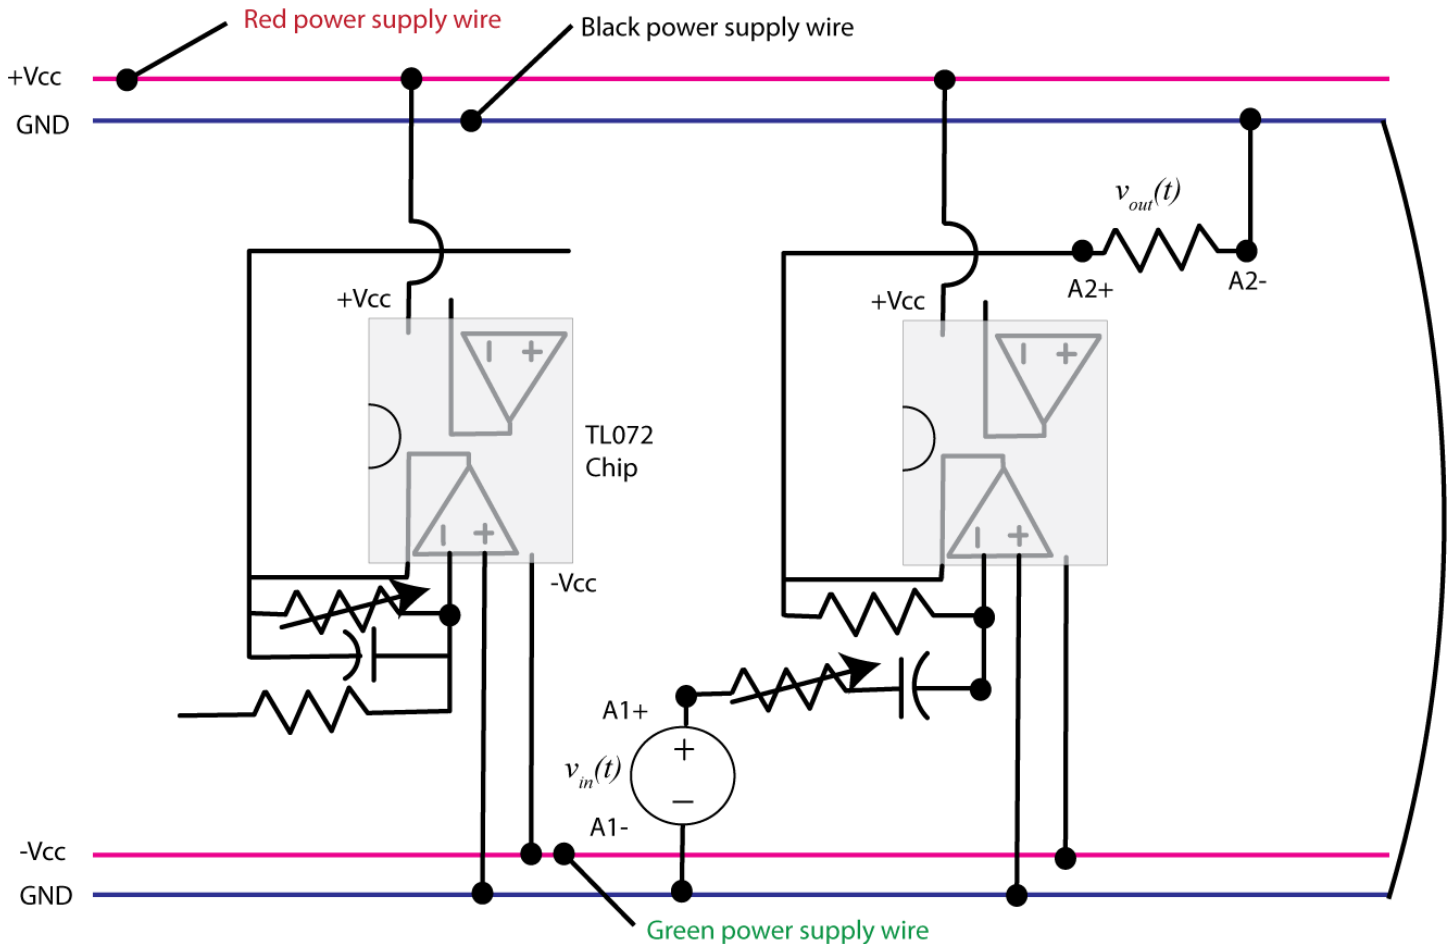

Figure 4. Lowpass and highpass subsystems.
3) Now build the highpass filter as shown in Figure 4. We have again included a load resistor to measure the output voltage. Do not connect the two subsystems yet. Adjust the variable resistor so for an input signal (sine wave) at 1000 Hz with an amplitude of 1.0 volts (2.0 volts peak to peak) the output signal has an amplitude of 0.4 volts (amplitude 0.8 volts peak to peak).